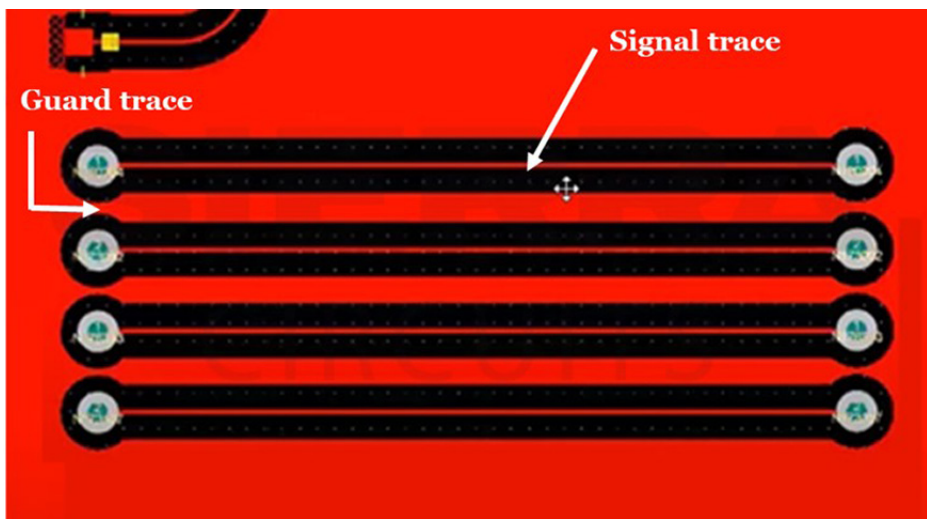

Figure 10. Spacing of 3W to 5W between guard and signal traces can avoid crosstalk.
- Ensure sufficient spacing between adjacent signal traces. The recommended clearance is typically three to five times the trace width to minimize electric field coupling (**Figure 10**).